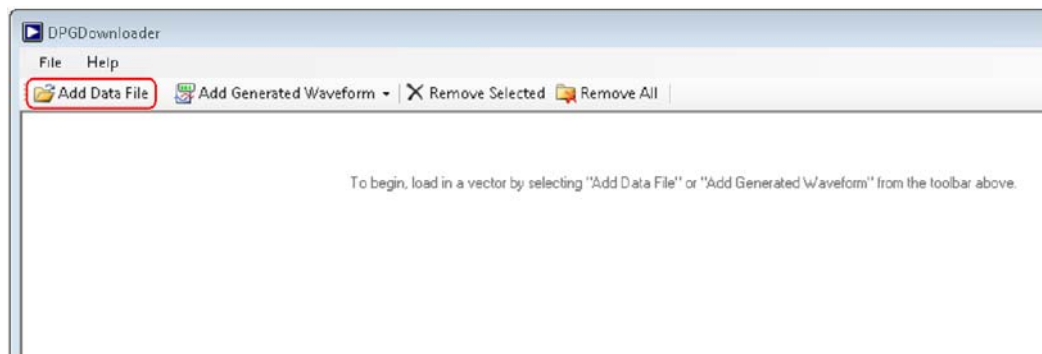

Figure 17. Choosing to Load an External File
3. Select the text file (see Figure 17).